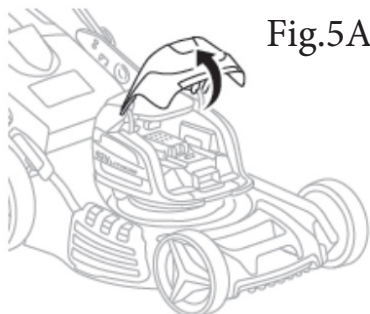

Fig.5A
- 1) Open the battery door. (Fig. 5A)